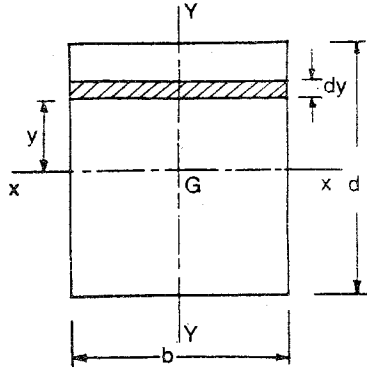

Fig. 6.4
1. **Rectangular section** : A rectangular section of width b and depth d is shown in figure 6.4. Consider a strip of width b and thickness dy at a distance y from the $x-x$ axis